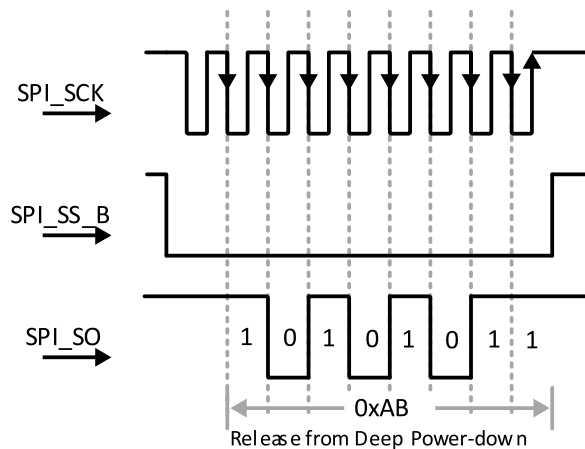
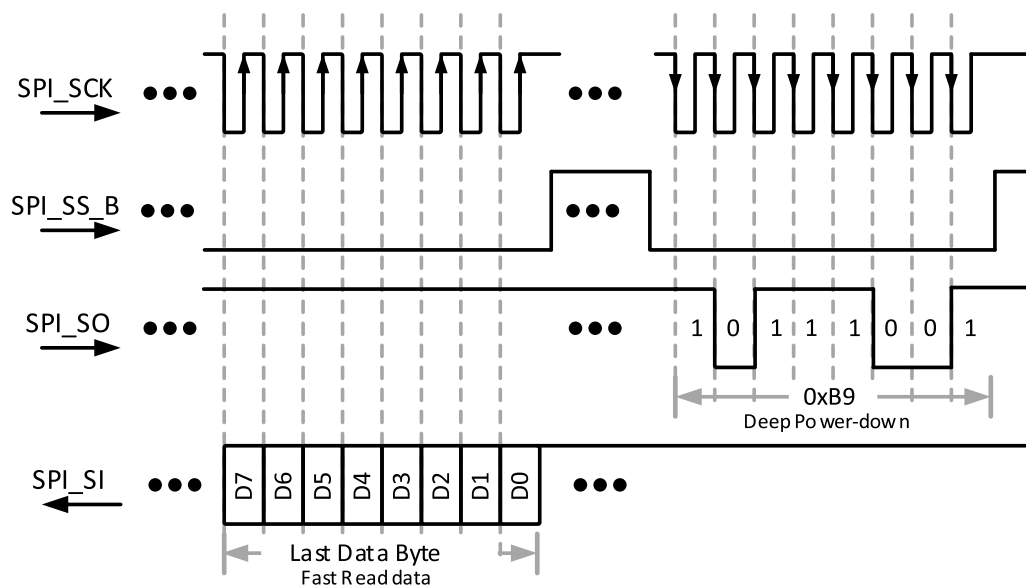

Figure 9.3. SPI Release from Deep Power-down Command
Figure 9.5. Final Configuration Data, SPI Deep Power-down Command
- For lowest possible power consumption after configuration, the PROM should also support the 0xB9 Deep Power Down command and the 0xAB Release from Deep Power-down Command (see Figure 9.3 and Figure 9.5). The low-power mode is optional. The PROM must be powered and ready to be accessed following iCE40 POR.
The iCE40 SPI interface starts by driving SPI_SS Low, and then sends a Release from Power-down command to the SPI PROM, hexadecimal command code 0xAB. Figure 9.3 provides an example waveform. This initial command wakes up the SPI PROM if it is already in Deep Power-down mode. If the PROM is not in Deep Power-down mode, the extra command has no adverse effect other than that it requires a few additional microseconds during the configuration process. The iCE40 device transmits data on the SPI_SO output, on the falling edge of the SPI_SCK output. The SPI PROM does not provide any data to the iCE40 device's SPI_SI input. After sending the last command bit, the iCE40 device de-asserts SPI_SS High, completing the command. The iCE40 device then waits a minimum of 10 μ s before sending the next SPI PROM command.
After transferring the required number of configuration data bits, the iCE40 device ends the Fast Read command by de-asserting its SPI_SS PROM select output, as shown in Figure 9.5. To conserve power, the iCE40 device then optionally issues a final Deep Power-down command, hexadecimal command code 0xB9. After de-asserting the SPI_SS output, the SPI PROM enters its Deep Power-down mode. The final power-down step is optional; the application may wish to use the SPI PROM and can skip this step, controlled by a configuration option.